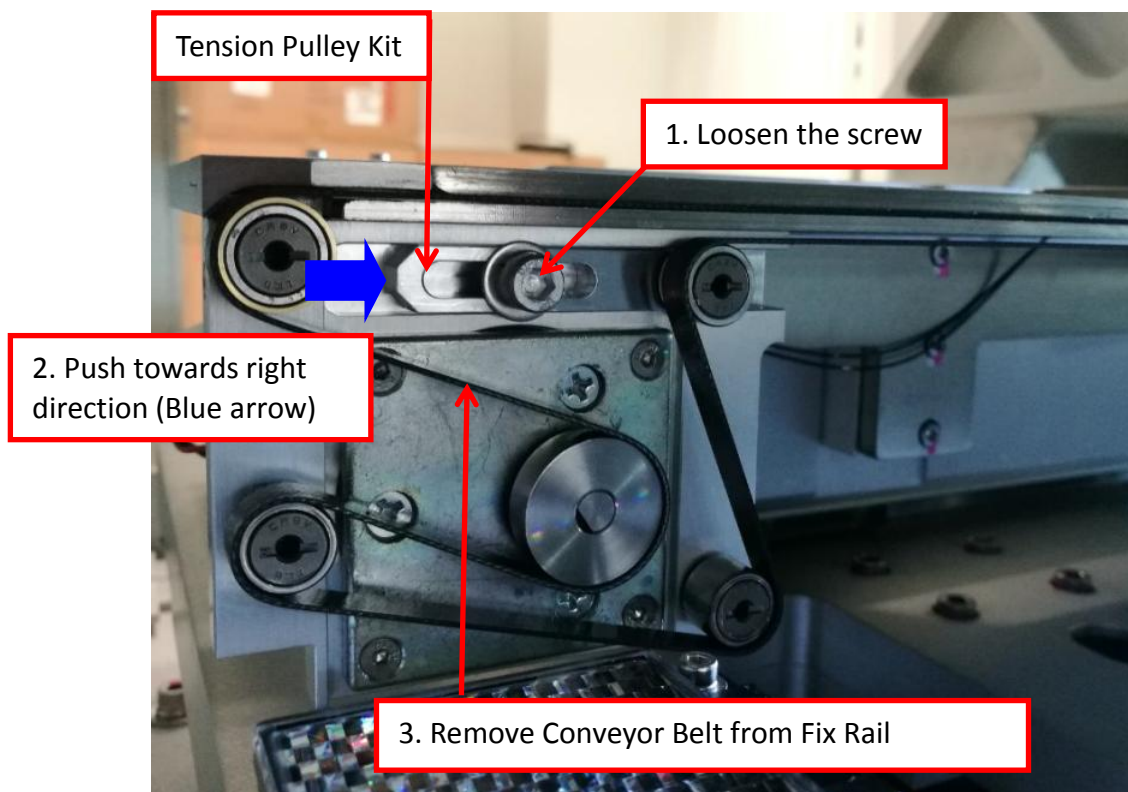

Figure 2 Fix Rail Conveyor Belt
3. Loosen 1 x Screw at Tension Pulley Kit as shown in Figure 2.
Gently push Tension Pulley Kit towards right direction (Blue arrow in Figure 2)